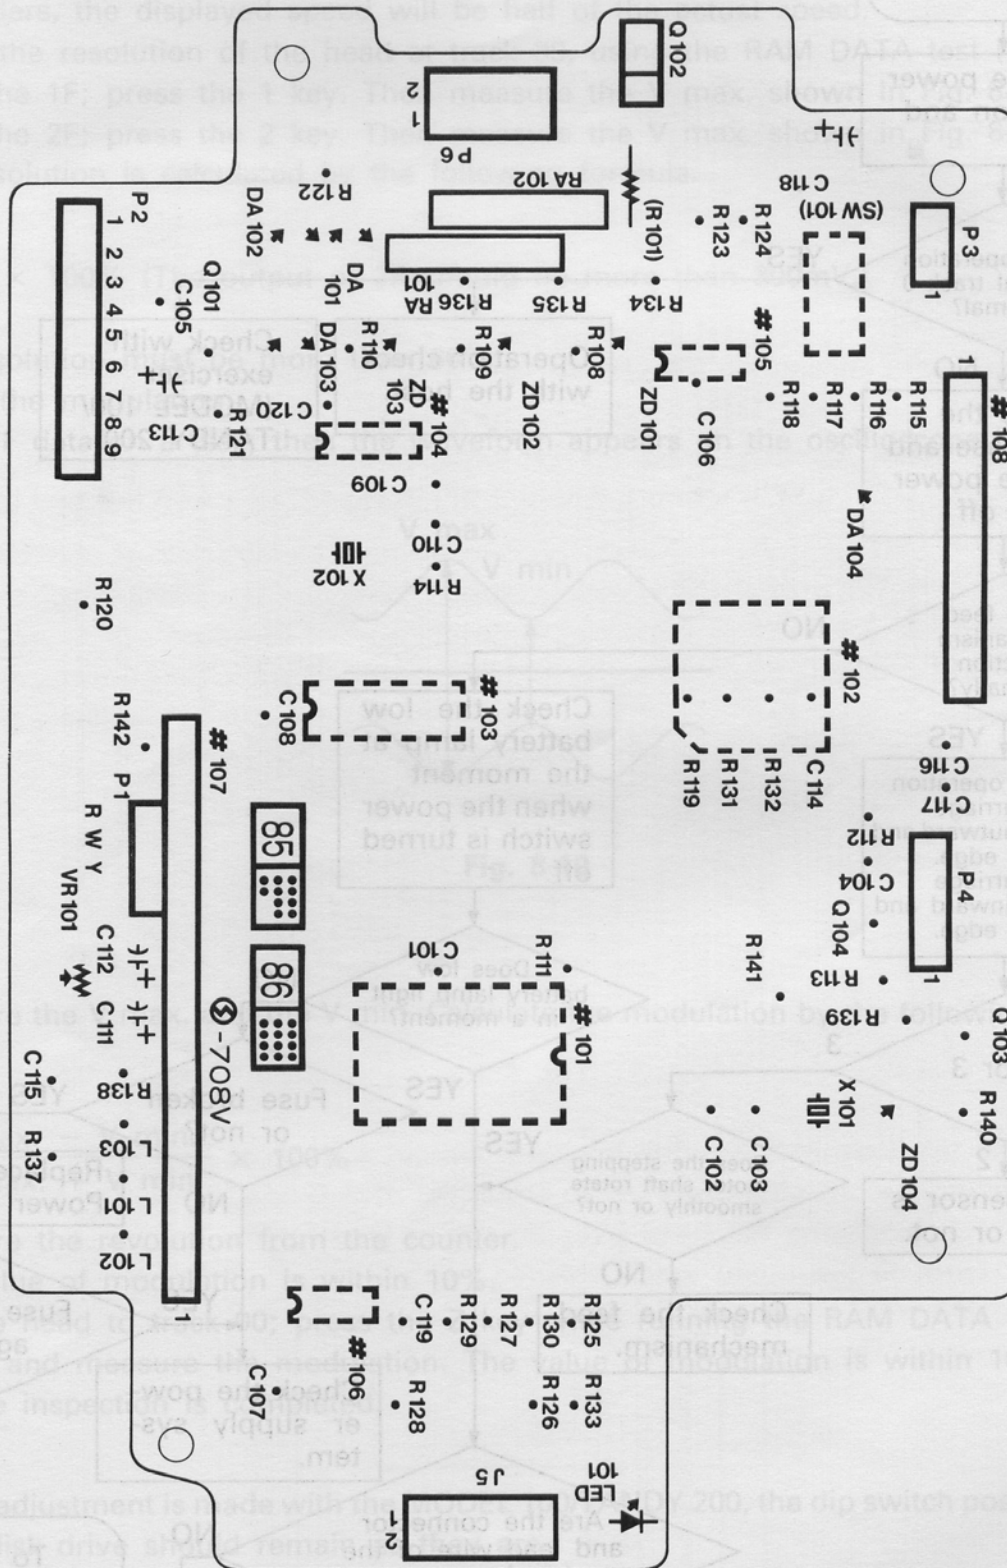

Fig. 10-1
- Connect the ground of the probe of the counter to the 0V shown in Fig. 10-1. and the probe to the index signal of the CH120.